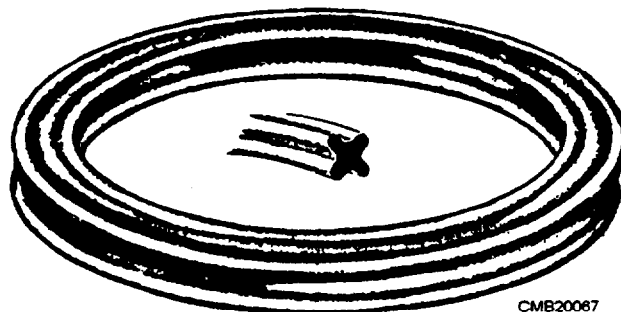

Figure 3-45.—Quad-ring.
**Quad-Rings.**—The quad-ring is very similar to the O-ring, the major difference being that the quad-ring has a modified square type of cross section, as shown in figure 3-45. Quad-rings are molded and trimmed to extremely close tolerances in cross-sectional area, inside diameter, and outside diameter. Quad-rings are ideally suited for both low pressures and extremely high pressures.